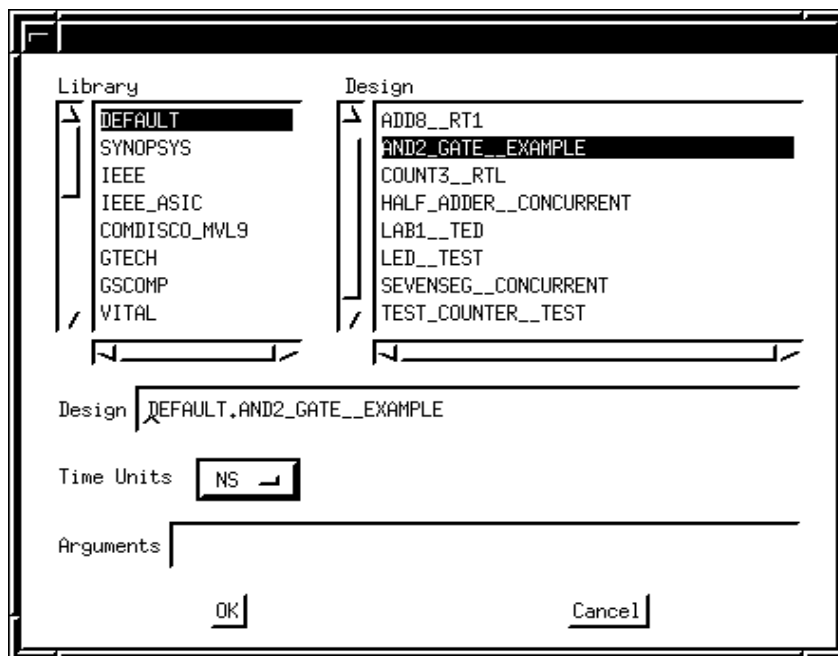

Figure 3: Vhdlb window.
**vhdlb**x window appears (see Figure 3).